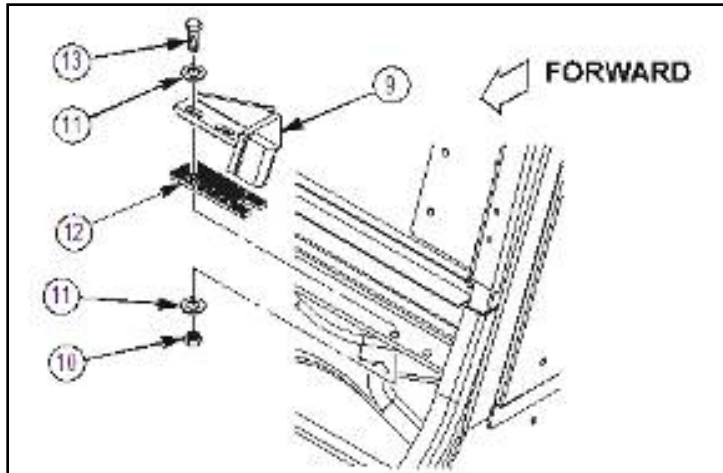

Figure 23b.
1. Install 6435658-01M1 left rear door lower latch ramp base (12) and 6435659-01M1 left rear door lower latch ramp (9) with two 4397000-010 capscrews (13), four 4397005-011 washers (11), and two 4397064-001 locknuts (10) as shown in figure 23b. Adjust as required, and tighten locknuts (10) to 10 lb-ft (13.6 N·m).